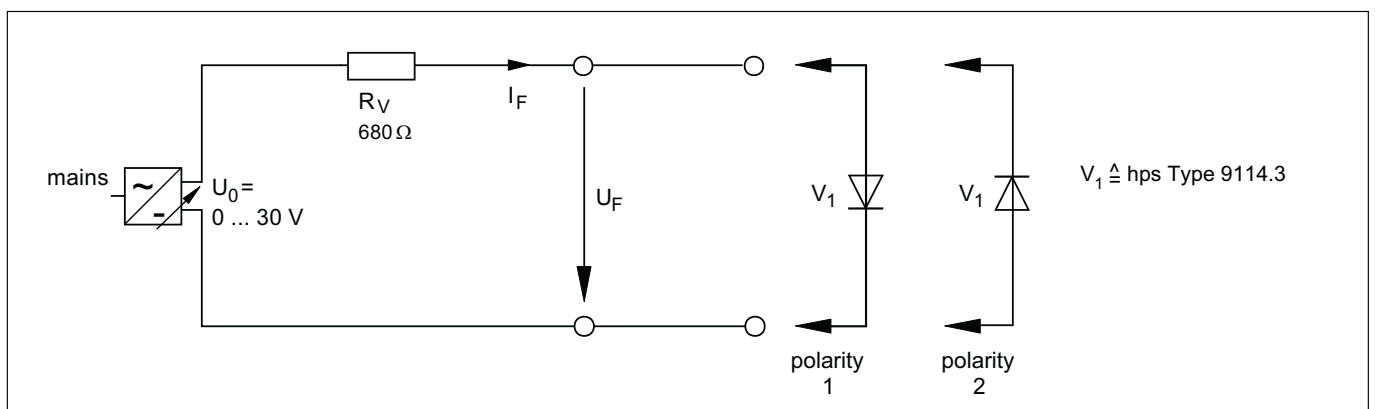

Fig. 1.1.2.1
- Apply the DC voltages U_F listed in Table 1.1.2.1 to the diode as shown in Fig. 1.1.2.1 (polarity 1), measure the corresponding current I_F and enter the values in Table 1.1.2.1. For this purpose, use the current error measuring.
- Transpose the measured values from the two tables into the diagram of Fig. 1.1.2.2 to plot the diode characteristic.